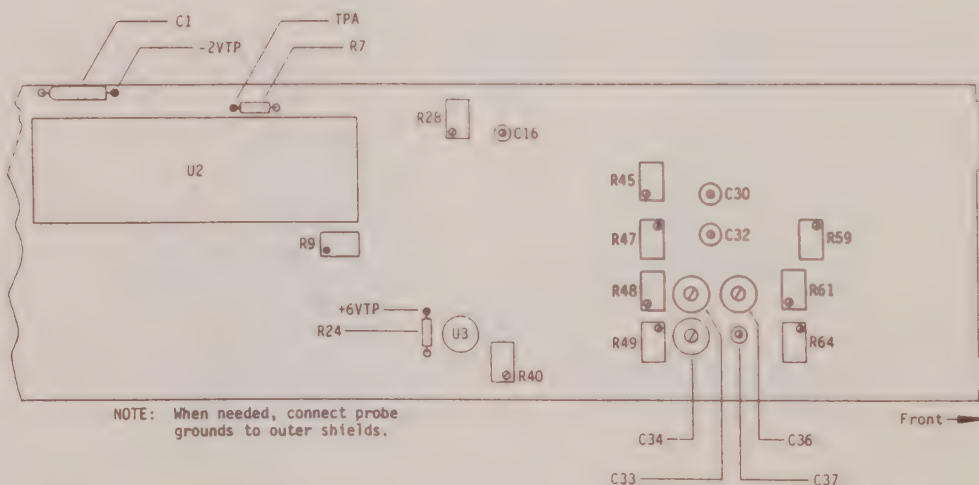

Figure 5-1
(See Figure 5-1)
6.1.5. Connect the analog scope to the output of the signal generator and to test point TPA on the Digitizer board, (Figure 5-1).
SPECIFICATION (See Figure 5-1)